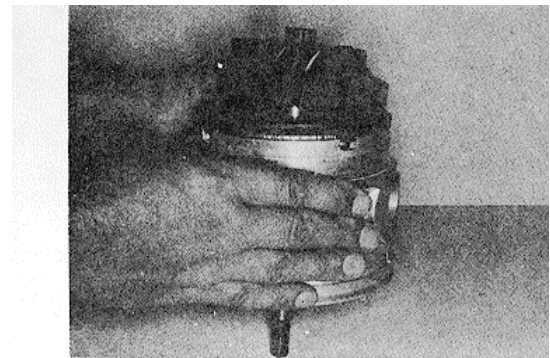

Fig. 10-13, T-430. Removing rotor shaft from bearing housing
9. Invert bearing housing and gently tap rotor shaft on workbench, Fig. 10-13, to remove rotor assembly from bearing housing. Lift out rotor assembly.